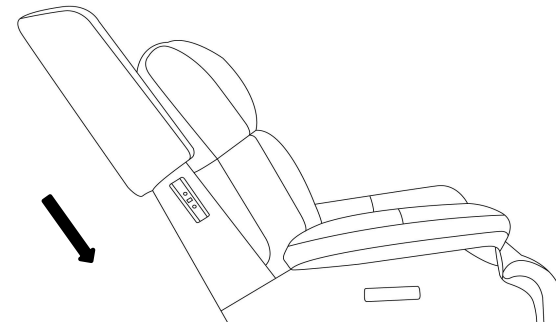

Figure 4
Attach the wing to the Back (A). Ensure the latches fit well (See Figure 4.)